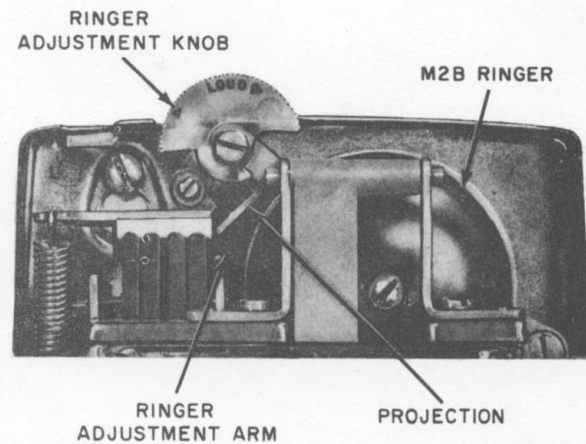

Fig. 8—Ringer Cutoff in 1554B Telephone Set
2.04 Cutoff features for the 1554B telephone set (Fig. 8) manufactured in late 1963 and early